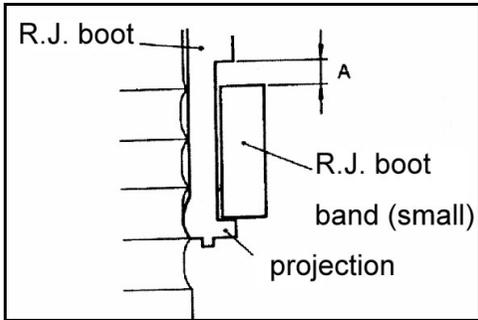

Fig.12-35
- (1) The value of W will change by approximately 0.7mm for each turn of the adjusting bolt.
- (2) The adjusting bolt should not be turned more than once.
⑥ Place the R.J. boot band (small) against the projection at the edge of the boot, and then secure it so that there is a clearance left as shown by (A) in the Fig.12-35.